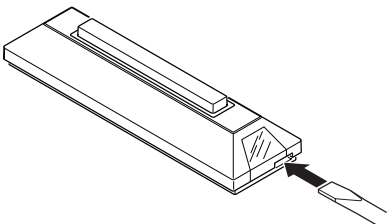

Figure 1 - Remove Push Button Back
1. Using a small screwdriver, push in tab on bottom of push button to remove back (see Figure 1).